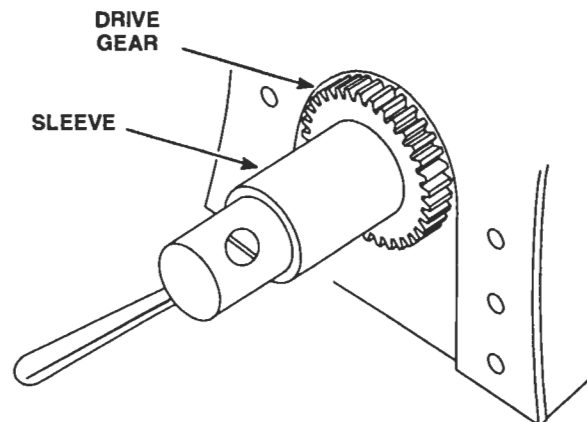

Figure 8. Installing Oil Pump Drive Gear on Crankshaft
3. Slide the gear on the crankshaft or use a sleeve if required (Figure 8.) and drive the gear tight against the shoulder on the crankshaft.